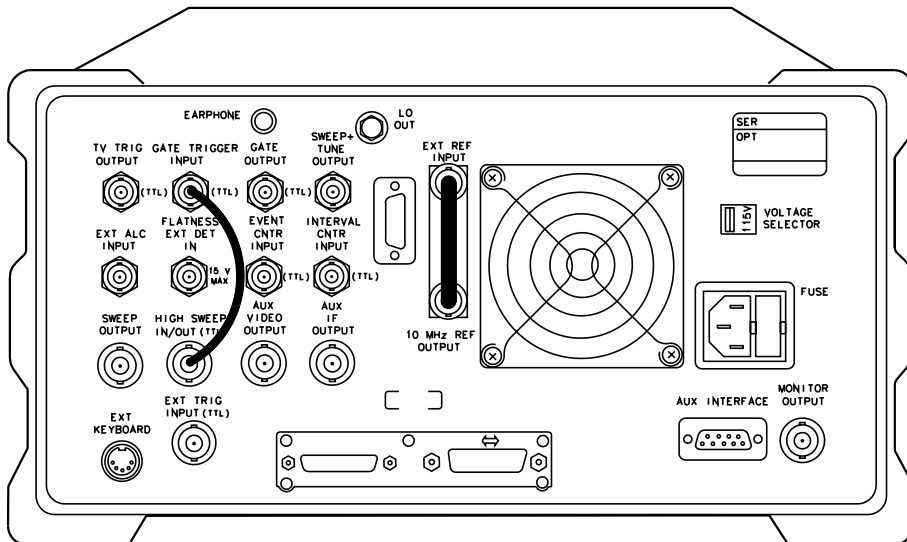

Figure 65 Rear Panel Connections for Option 105
- 1 Connect the rear panel HIGH SWEEP IN/OUT connector to the GATE TRIGGER INPUT connector with a short BNC calibration cable. See Figure 65.